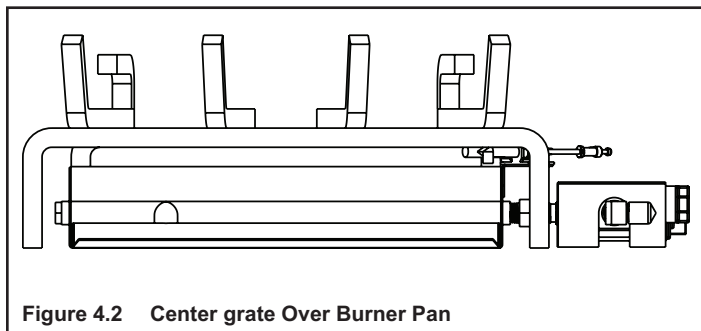

Figure 4.2 Center grate Over Burner Pan
- Center grate over burner pan. See Figure 4.2.